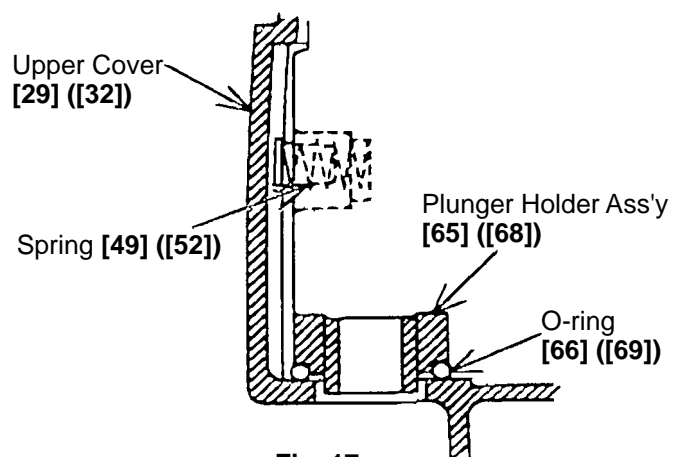

Fig. 17
- (6) When installing the Plunger Holder Ass'y [65] ([68]) in the Upper Cover [29] ([32]), ensure that the O-Ring (P-16) [66] ([69]) is properly mounted at the lower portion of the Plunger Holder Ass'y [65] ([68]), as shown in Fig. 17. Also, ensure that the two Springs [49] ([52]) are properly mounted between the Plunger Holder Ass'y [65] ([68]) and the Upper Cover [29] ([32]) (Fig. 17).